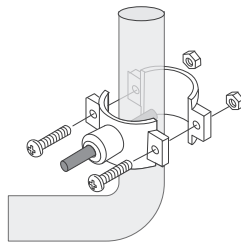

Figure 9
c. Slip the front plate over one end of the tubing (without a mark) and insert the tubing into the drilled hole for about 0.6" (Figure 9).